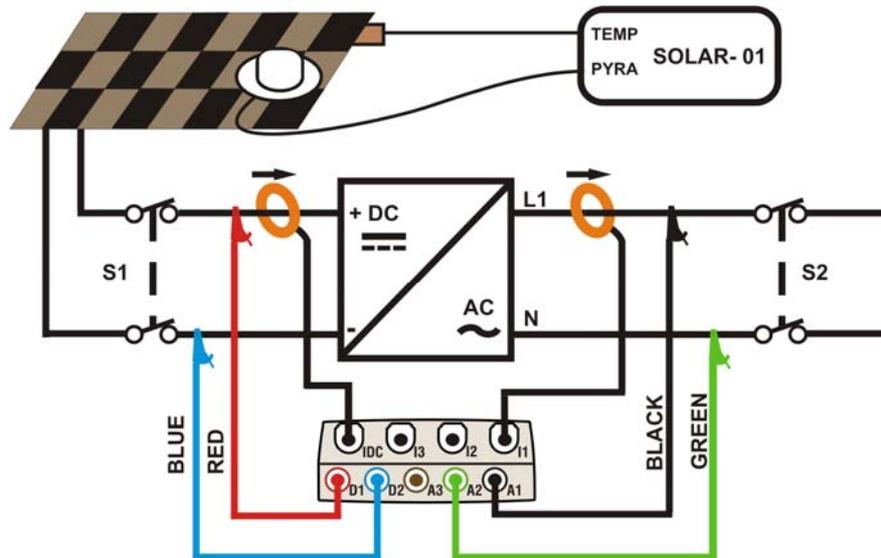

Fig. 242: Connecting the instrument in a PV-1 system with SOLAR-01
2. Connect inputs **D1** and **D2** to the positive and negative string output pole respectively. Connect inputs **A1** and **A2** to the phase and neutral conductors, respecting the colors as shown in Fig. 242
3. Connect the DC current clamp to the positive string output conductor **by respecting the direction of the arrow** on the clamp itself as indicated in Fig. 242. **Check the status of internal batteries of the DC clamp after the connection to the installation**
4. Connect the AC current clamp to the Phase L1 conductor **by respecting the direction of the arrow** on the clamp itself as indicated in Fig. 242. Connect the output of the clamp to the **I1** input of the instrument.